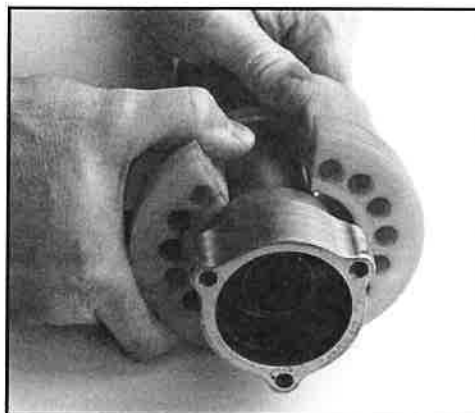

**FIG. 67: INSTALLING
19. Tighten the screw of the control tube end so that the elastic block is compressed and both halves of the segmented rings can be installed (see Fig. 67).